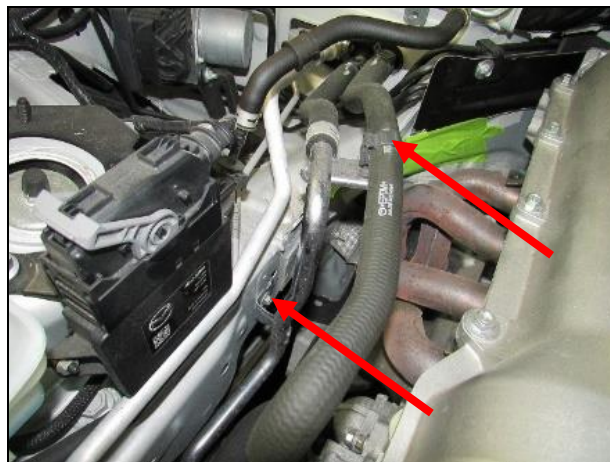

Figure 16
8. From the top of the engine bay, slide the heater hose back on the bracket and connect the clamp. Reinstall the (x1) 10mm bolt head to the heater hose bracket (**Figure 16**).